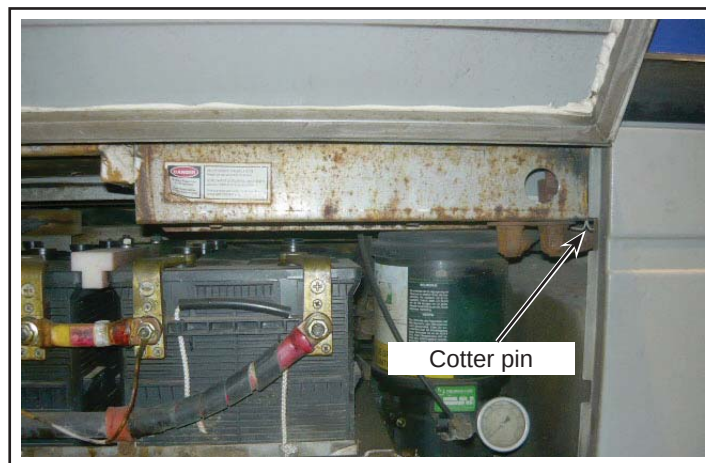

Figure 4 - Location of the Cotter Pin in the Drain Hole
- 1.5. Check that the cotter pin is not jammed in the drain hole. See Figure 4.